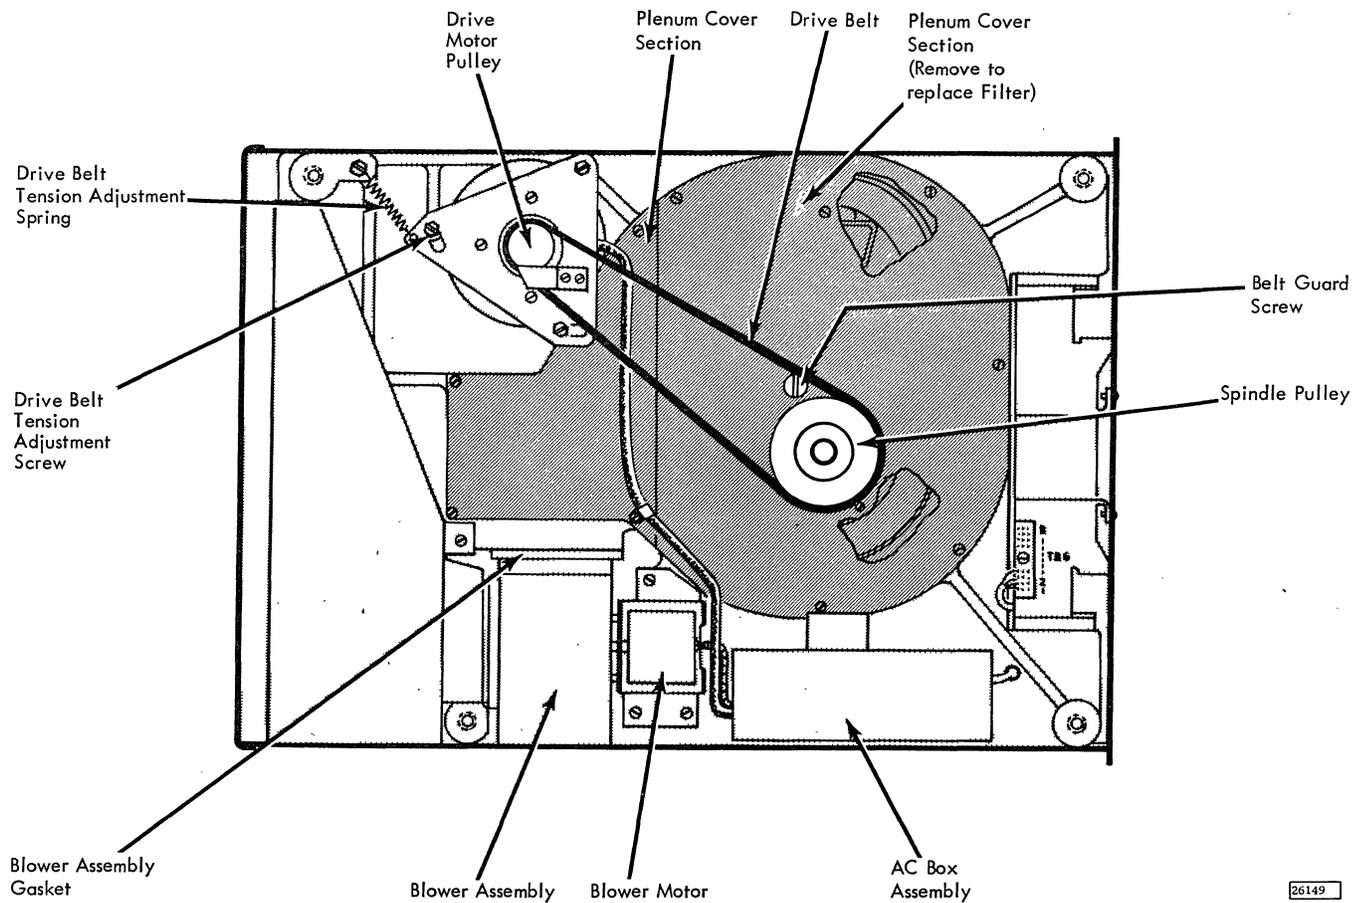

Figure 7-1b. 2310 Disk Storage Drive, Bottom View of Machine
2. Remove eight mounting screws (Figure 7-1b) securing plenum cover to baseplate. One of these screws secure the belt guard to plenum cover.